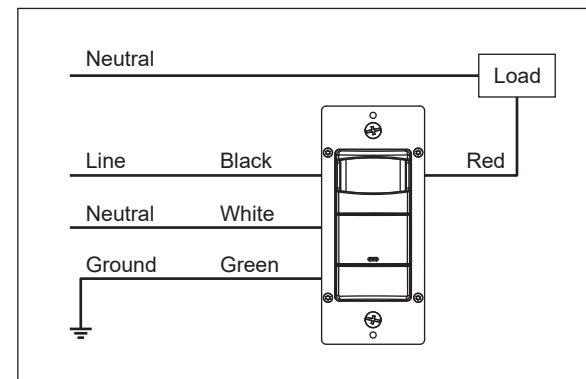

FIG. 1
2. Connect wires as shown in wiring diagram. (FIG.1)